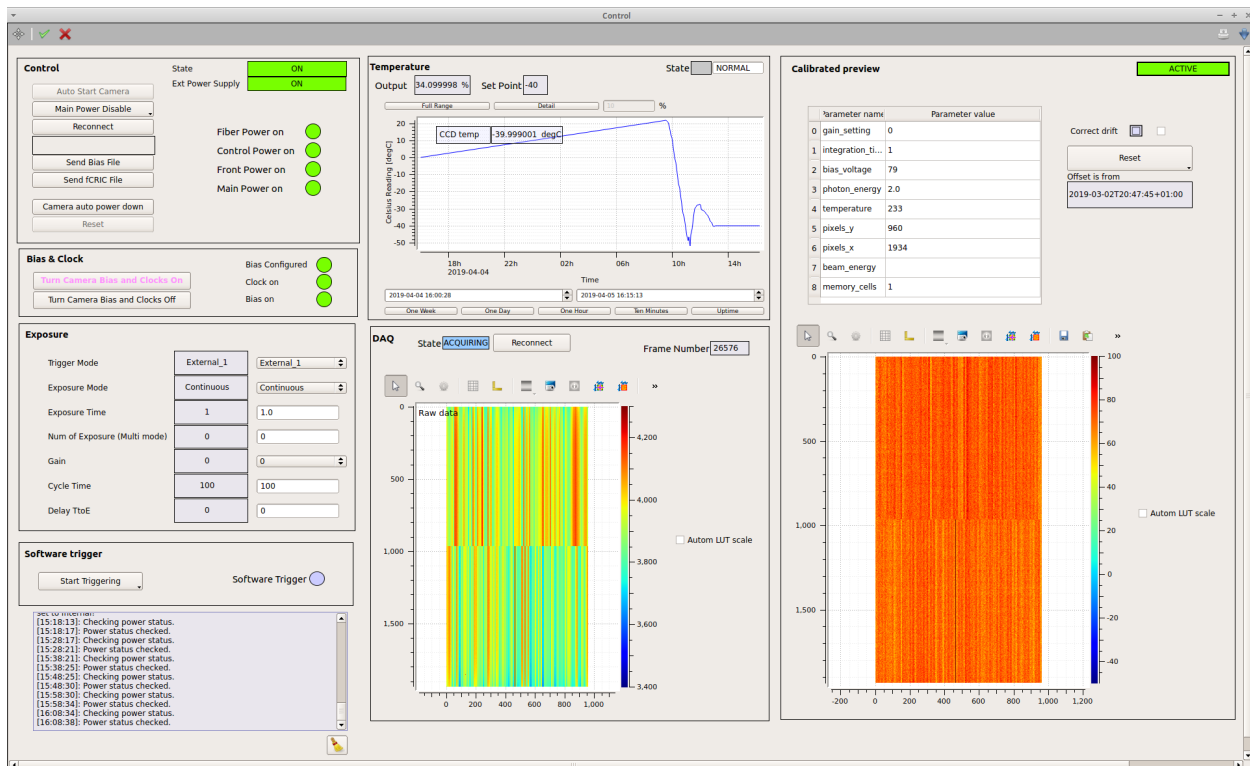

Fig. 3.2: The Control scene.
**Control** with all that is required for the routine operation of the detector, see Fig. 3.2. The instructions on how to turn on the camera are found in Section 3.2 and in the following.